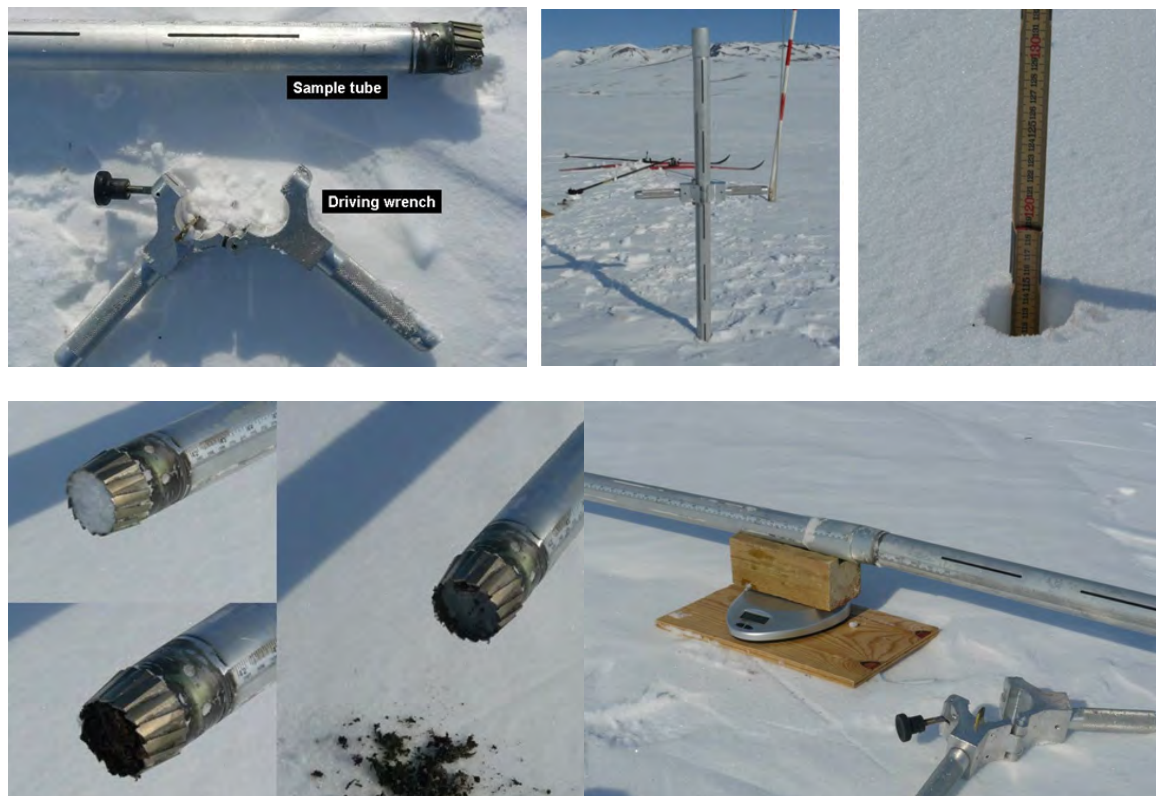

Figure 20: Snow sampling tube in use.
9. Carefully balance the sampling tube containing the core on the weighing cradle or on a scale (fig. 20). If windy, point the tube into the wind. Record the weight in the field chart. If the total snow depth is below 1 m, the snow can be transferred from the tube to a pre-weighed plastic bag and measured more accurately. If it is windy or too cold for the scale to work outside consider to bring samples into the station in labelled plastic bags and weigh inside.